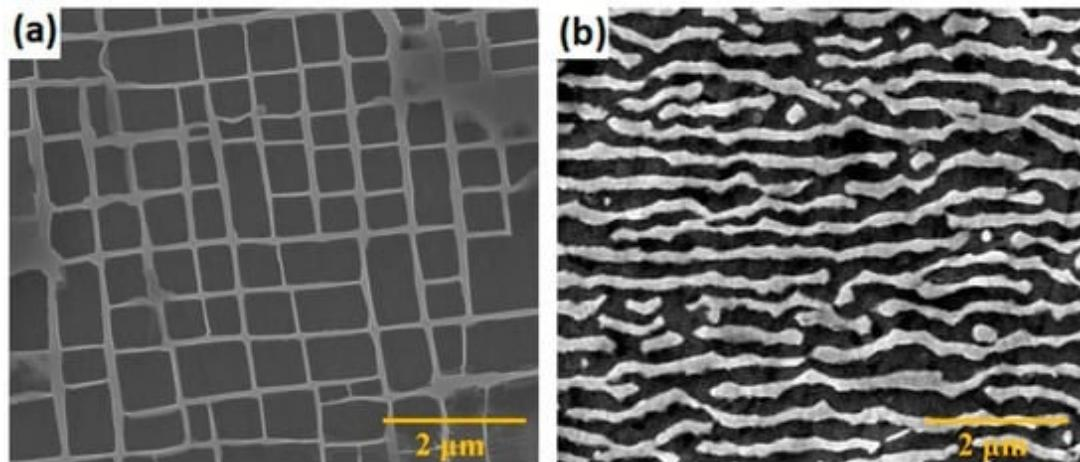

Figure 5. SEM – Cross section of a single-crystal turbine blade before and after 1'000 h of operation
a) Your team leader gave you the following scanning electron micrograph (Figure 5), which shows the cross section of a single crystalline turbine blade of the alloy CMSX-4 after 1'000 h of service with a maximum temperature of 950°C in an aero-engine. The alloy has the composition (in wt.%) given in Table 2.